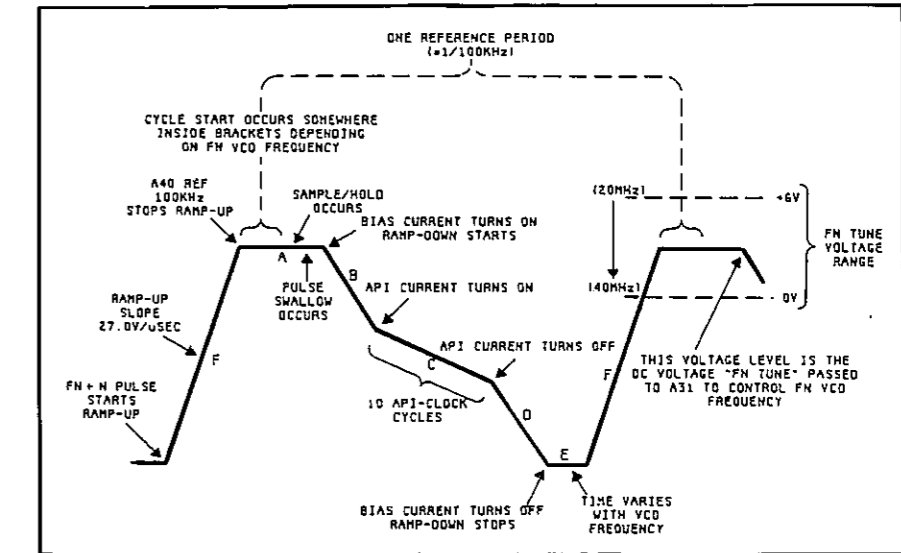

Figure A32-4 Fractional-N Integrator Output (A32TP1)
voltage at the Integrator output is sampled and passed to the Fractional N VCO. Figure A32-4
goes high CR3 turns on, and the ramp-up stops. No current flows in or out of the integrator. The integrator now has a constant output, shown by the flat portion A in Figure A32-4.
A32-13 When the API current cycle ends the Integrator ramp down returns to its initial gradient determined by the Bias Current Source. The ramp down continues until the BIAS line U3(14) goes low, removing the reverse bias from CR5, CR3 and CR4. The Integrator is momentarily in a quiescent state "E" shown in Figure A32-4 where it remains until the receipt of the next pulse from the Fractional N Divide by N assembly and the cycle repeats.